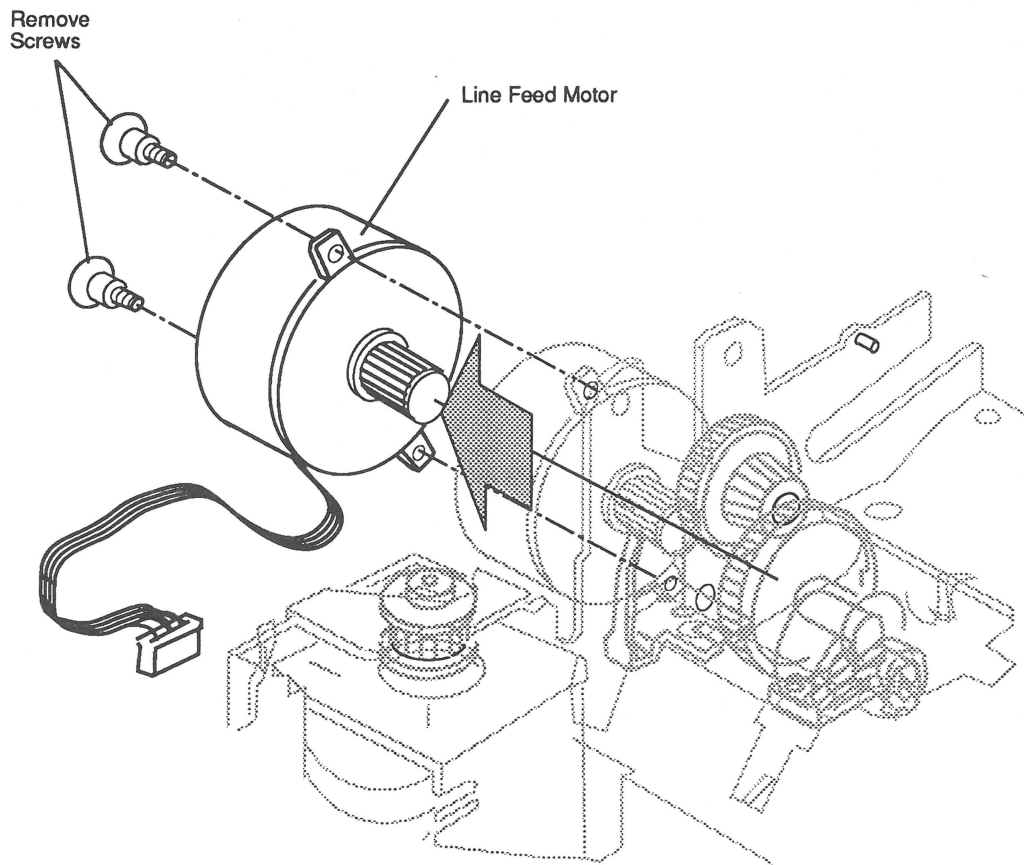

Figure 2-17 Line Feed Motor
4. Locate the line feed motor (**Figure 2-17**) and remove the two screws that hold the motor in place.